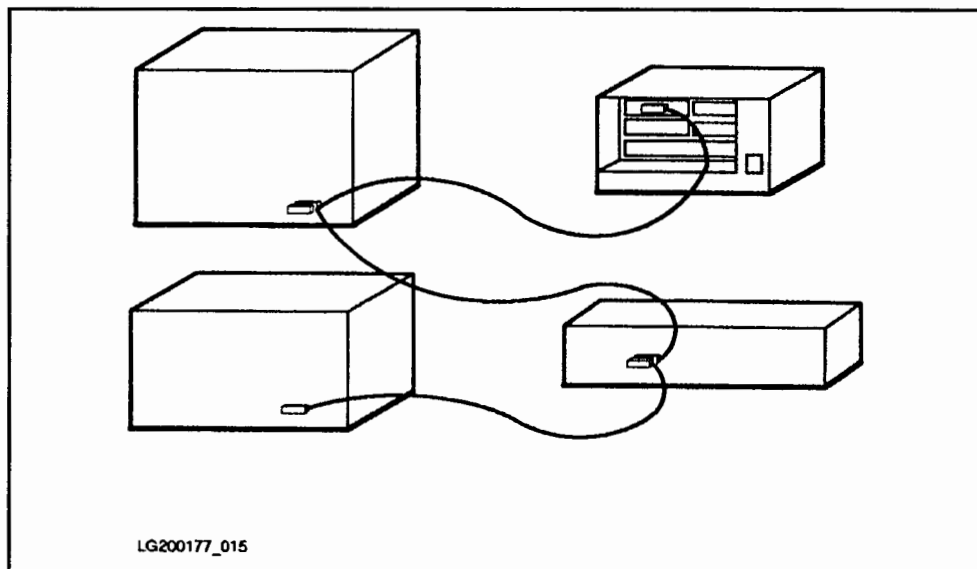

Figure 4-48. Daisy-Chained HP-IB Devices
c. Connect the other end of the HP-IB cable to the interface or the last device on the chain. If the HP-IB interface already has one or more devices connected to it, connect the cable from your new device to the last device on the chain as in Figure 4-48.